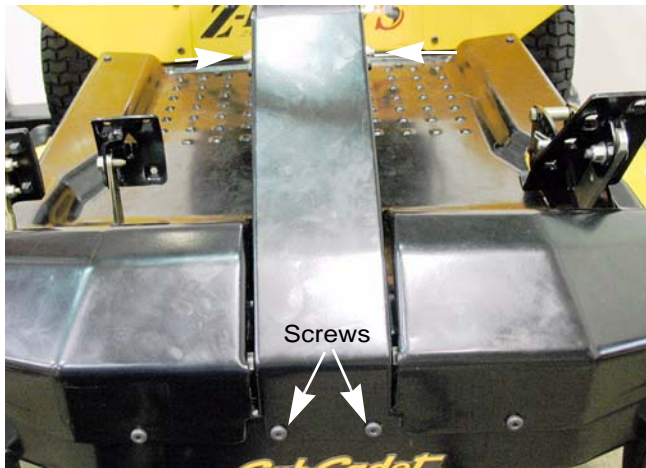

Figure 6.1
- 1 Remove the four screws that hold the steering column cover in place using a T-30 torx driver. See Figure 6.1.